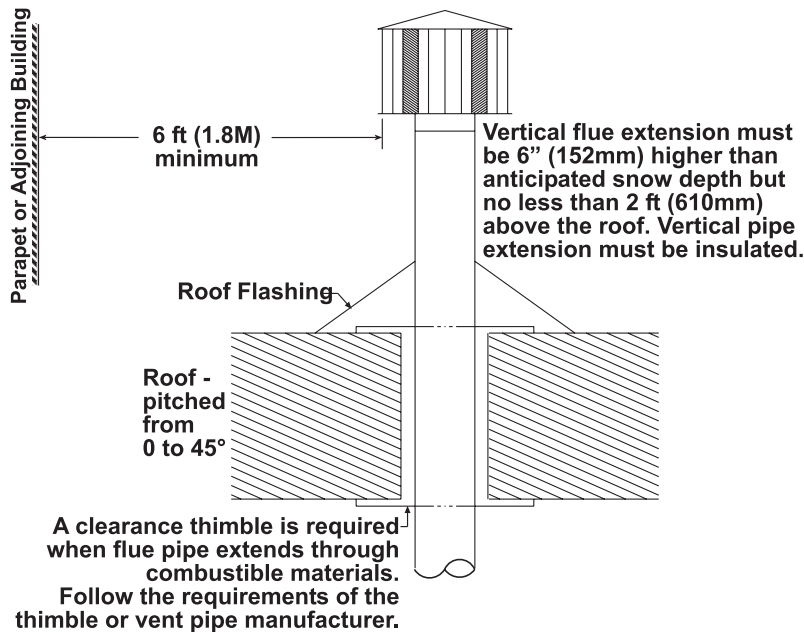
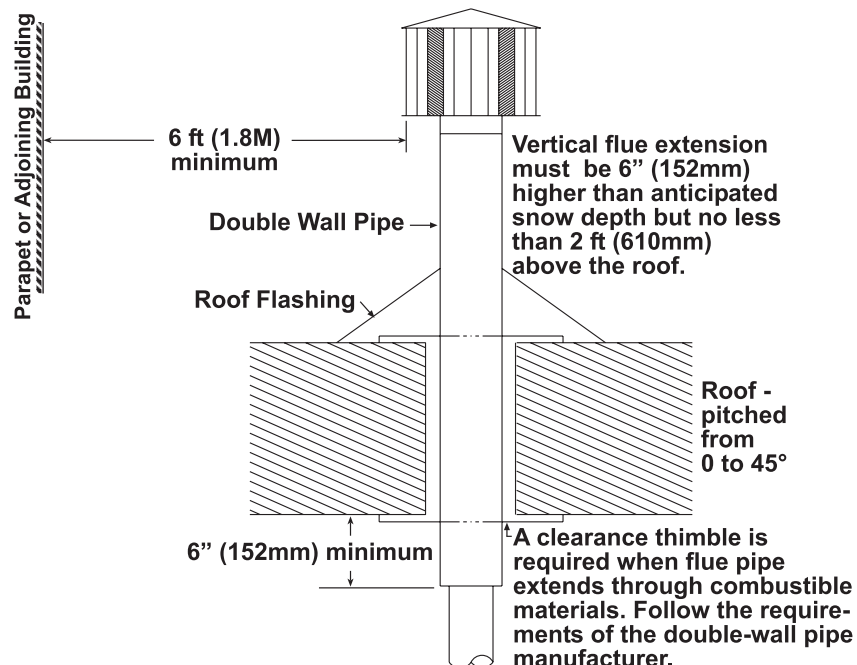
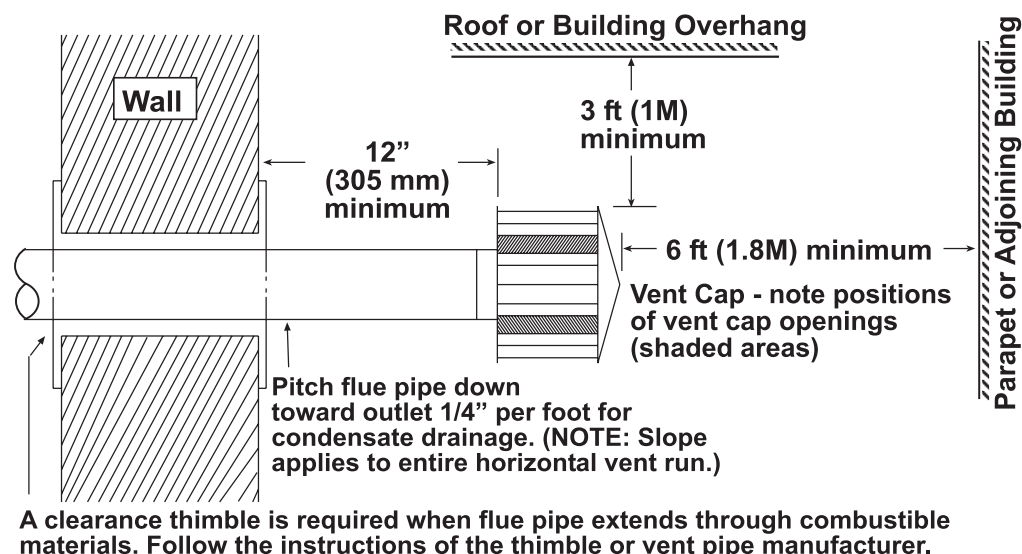
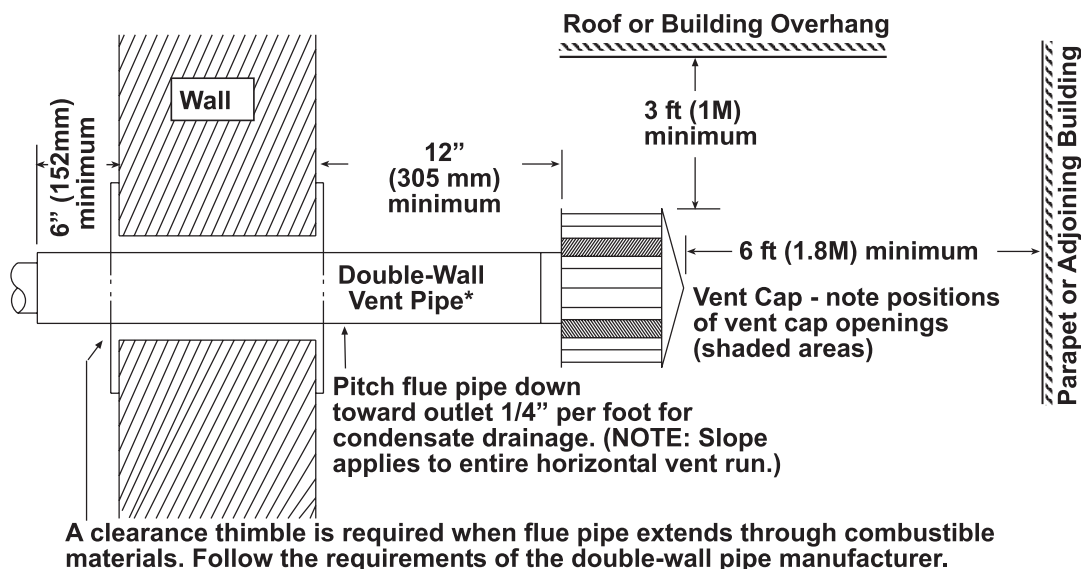

Figure 7. Vertical Vent Termination—Single-Wall Vent Run and Single-Wall Terminal End
Figure 8. Vertical Vent Termination—Single-Wall Vent Run and Double-Wall Terminal End
Figure 9. Horizontal Vent Termination—Single-Wall Vent Run and Single-Wall Terminal End
Figure 10. Horizontal Vent Termination—Single-Wall Vent Run and Double-Wall Terminal End
- **Vent terminal:** The vent cap (see Figure 7, Figure 8, Figure 9, or Figure 10) must be the same size as the vent pipe (vent pipe is either 4 or 6 inches diameter). For optimum stability under wind conditions, use a manufacturer approved vent cap. The vent terminal pipe may be either single-wall or double-wall (type B). Check local codes for double-wall terminal requirement. If double-wall pipe is used in the vent terminal with a single-wall vent run, follow the instructions below to attach the vent cap and to connect the double-wall pipe to the single-wall vent pipe run.